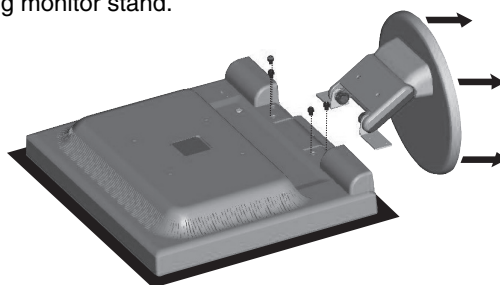

Figure R.2
3. Remove the 4 screws connecting the monitor to the stand and remove the stand as indicated (**Figure R.2**).